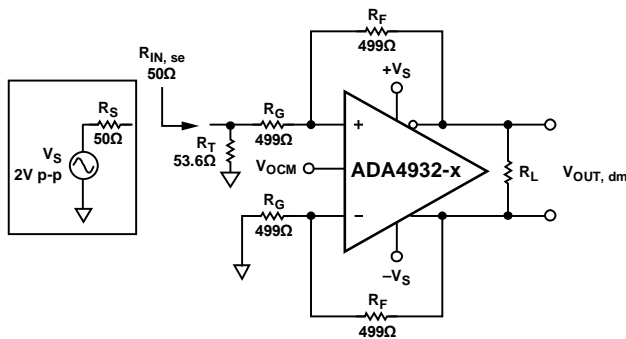

Figure 60. Adding Termination Resistor,  $R_T$
3. Figure 60 shows that the effective  $R_G$  in the upper feedback loop is now greater than the  $R_G$  in the lower loop due to the addition of the termination resistors. To compensate for the imbalance of the gain resistors, add a correction resistor ( $R_{TS}$ ) in series with  $R_G$  in the lower loop.  $R_{TS}$  is the Thevenin equivalent of the source resistance,  $R_S$ , and the termination resistance,  $R_T$ , and is equal to  $R_S || R_T$ .